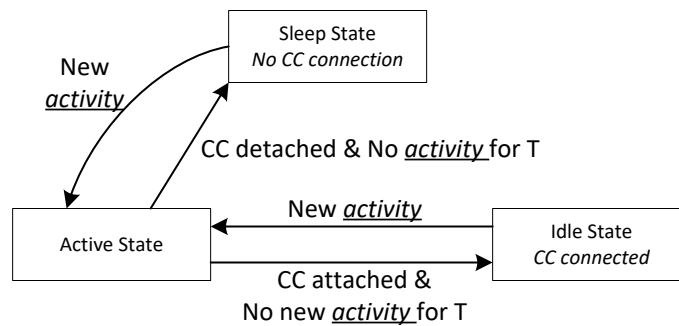

Figure 8-26. Flow Diagram for Power States
The TPS25730A can operate in one of three different power states: Active, Idle, or Sleep. The Modern Standby mode is a special case of the Idle mode. The functionality available in each state is summarized in Table 8-10. The device automatically transitions between the three power states based on the circuits that are active and required. See Figure 8-26. In the Sleep state, the TPS25730A detects a Type-C connection. Transitioning between the Active mode to Idle mode requires a period of time (T) without any of the following activity: